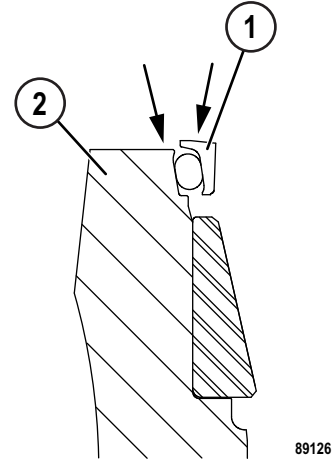
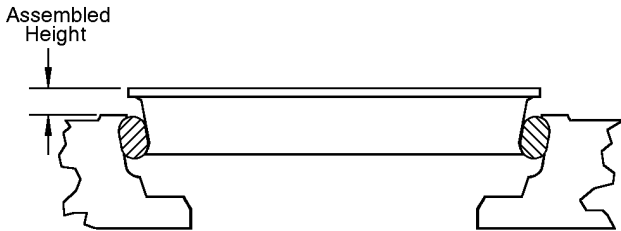

FIGURE 50-115. CHECKING SEAL HEIGHT
FIGURE 50-113. CHECKING SEAL RING
12. Use a caliper to measure the assembled height (Figure 50-113). Check the seal height variation (marked by arrows, Figure 50-115) between seal ring (1, Figure 50-115) and wheel hub (2) or other applicable seal ring housing. Check the assembled height in four places that are 90° apart. The height variation around the assembled ring must be less than 1.0 mm (0.04 in).